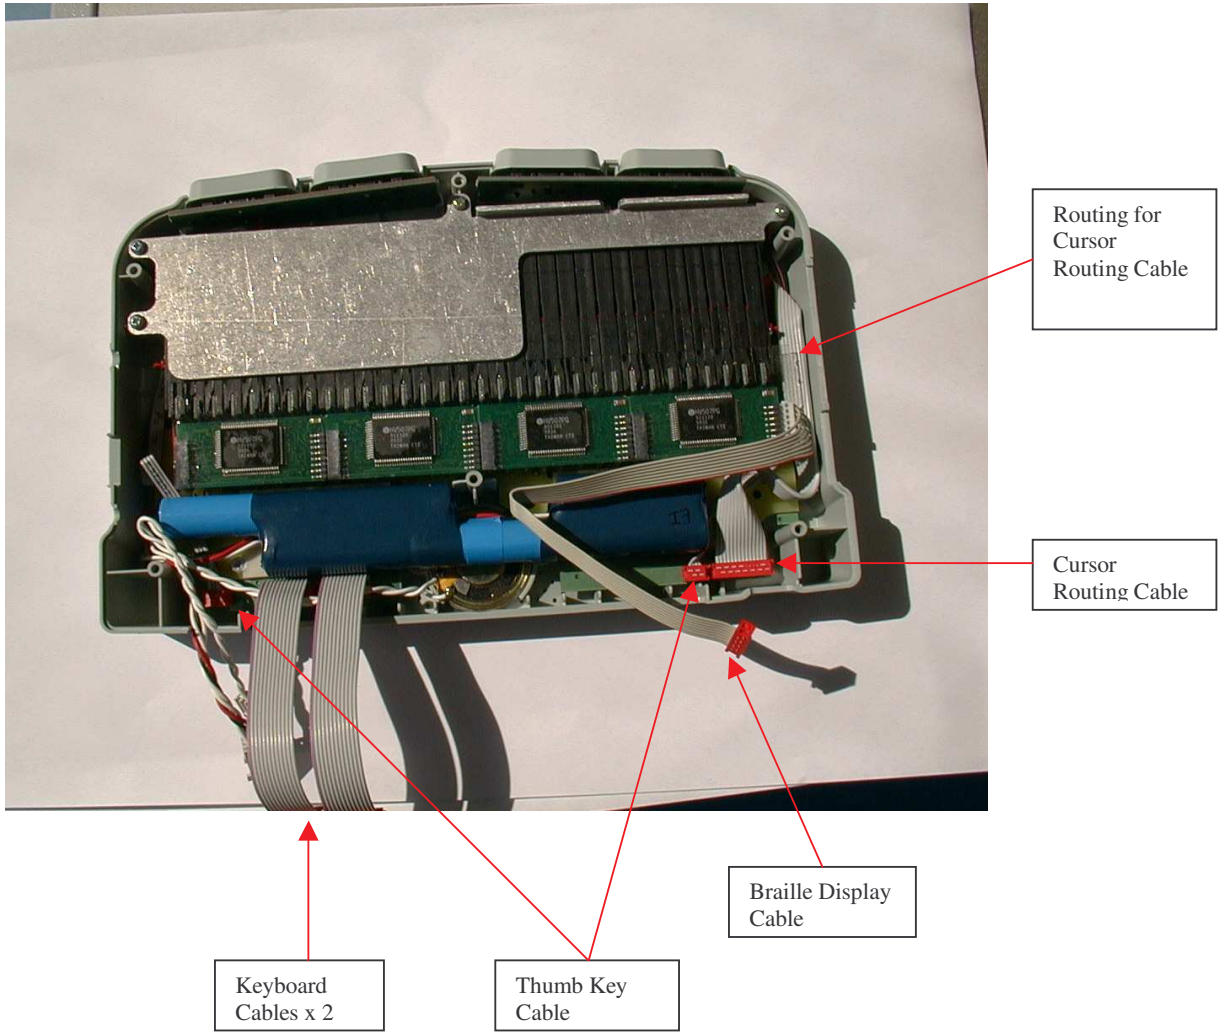

Figure 17 - Identification of internal parts in a case top
- Disconnect the cursor router cable. See Figure 17 for location of the cursor router connector.
- Connect the cursor router connector. See Figure 17 for location of the cursor router cable.
- Detach the thumb-key connectors. See Figure 17 for location of the thumb-key connectors.
- Check orientation of thumb-key board. Refer to Figure 17 for correct orientation.
- Route the thumb-key cable as shown in Figure 17
- Attach the thumb-key connectors. See Figure 17 for location of the thumb-key connectors.